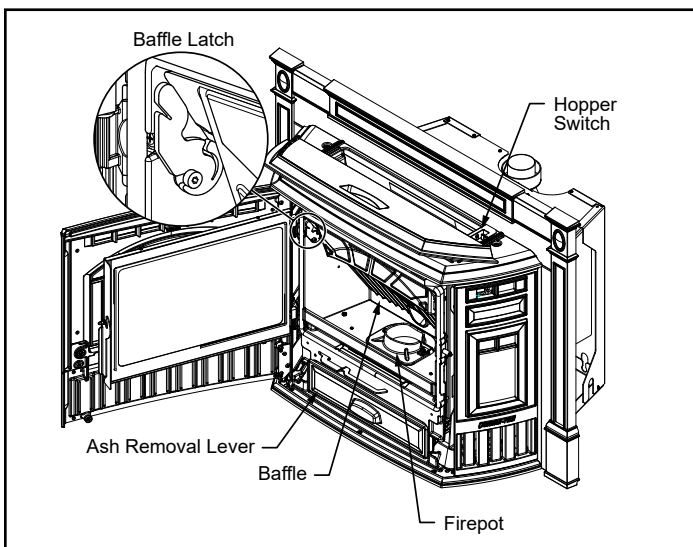

Figure 17.1
- c. Pull firepot floor cleaning lever two times until the ash falls into the ash pan below (**Figure 17.1**).